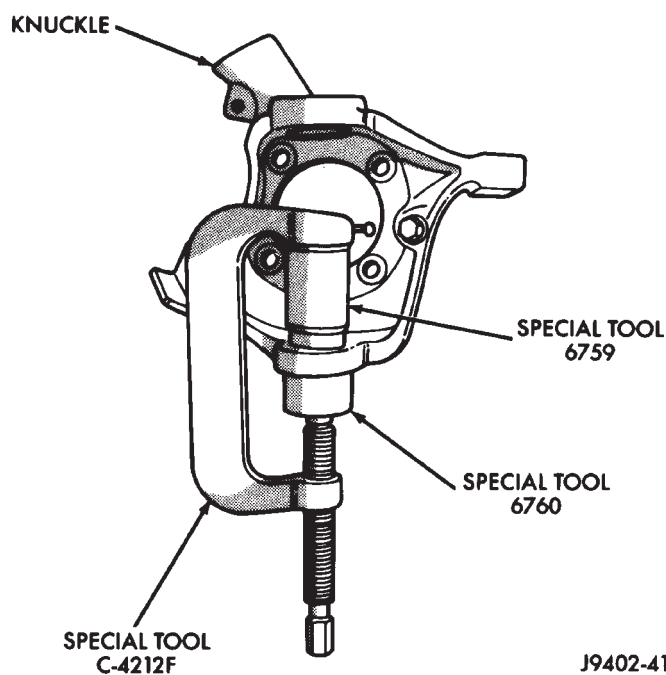

Fig. 28 Lower Ball Stud Install
(2) Position tools as shown to install lower ball stud (Fig. 28).